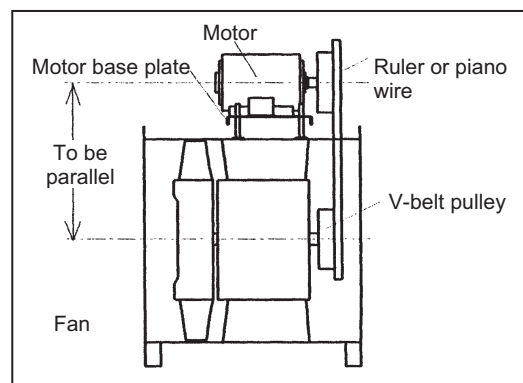

Figure 7 – Belt tension measurement
- (1) Place a ruler or a piano wire onto the outer surfaces of the V-belt pulleys on both the fan and motor sides, and check and adjust it so that the surfaces of the pulleys are on a straight line as shown in Figure 7.
- (2) If you can depress the middle of the V-belt with your finger up to about the same depth as the thickness of the V-belt, the tension of standard V-belts is appropriate. Use the slide base of the motor to adjust the tension of the V-belt.
- (3) Make high tension V-belts slightly tighter than standard V-belts. Too loose tension may cause the belt to slip during startup, and excessive tension may apply a large load to the shaft and bearing, thus resulting in failure.
- (4) Since V-belts tend to stretch at an early stage of use, ensure to readjust the tension in the first several days of operation (about 50 hours after the start of operation). Otherwise, the belt may break prematurely or come off.